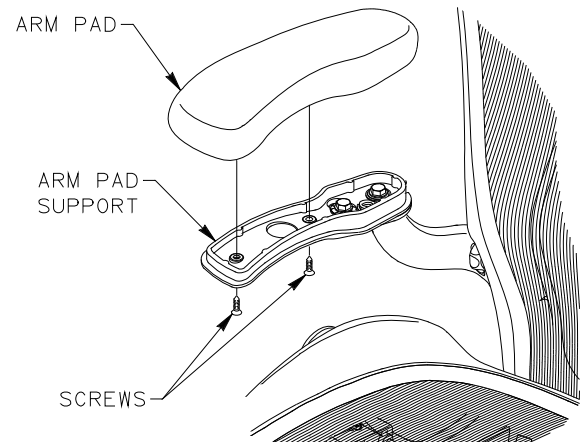

FIGURE 1
8. INSTALL ARM PAD ONTO ARM PAD SUPPORT BY INSERTING TAB ON ARM PAD SUPPORT INTO SLOT IN ARM PAD AND PIVOTING DOWN ONTO ARM PAD SUPPORT. SECURE WITH SCREWS. SEE FIGURES 1 & 6.